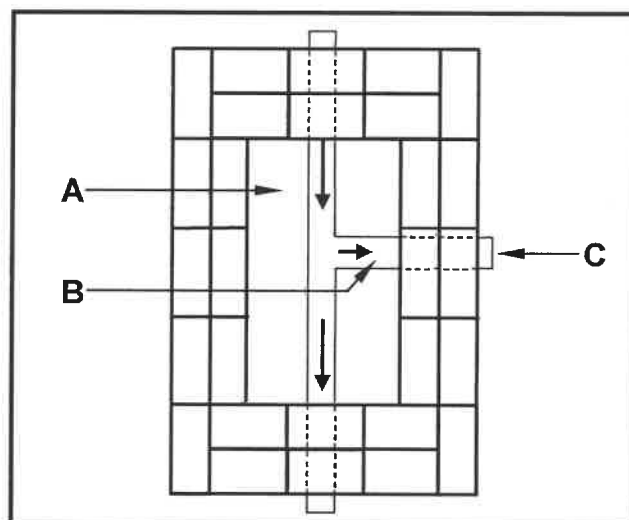

FIGURE 3.2
3.2 FIGURE 3.2 below shows a drawing of a faulty installation of a manhole.